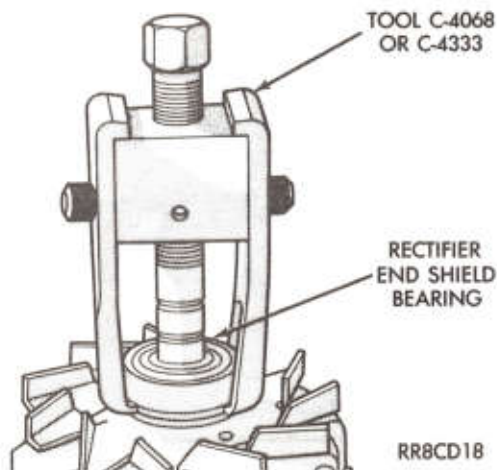

Fig. 17—Remove Rectifier End Shield Bearing
(11) With a suitable puller (C-4068 or C-4333), remove the rectifier end shield bearing (Fig. 17).